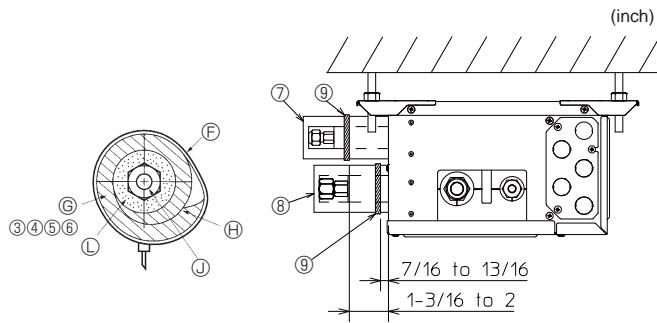
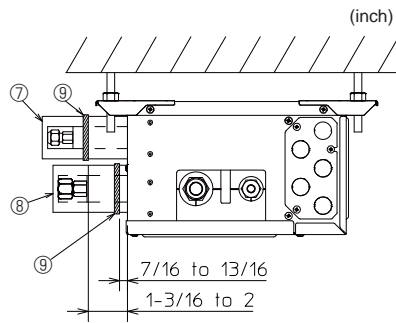

Fig. 7-3
Fig. 7-4
- (1) Remove the flared nuts and caps from the branch box.
- (2) Flare the ends of the liquid and gas piping, and apply refrigeration oil (procure locally) to the flared seat. Do not apply oil to the threaded portion.
- (3) Connect the refrigerant piping immediately. Always tighten the flared nuts to the torque specified in the table 2 using a torque wrench and double spanner.
- (4) Press the pipe covers ③ and ⑤ on the liquid piping against the unit and wrap to hold in place. (Fig. 7-3)
- (5) Press the pipe covers ④ and ⑥ on the gas piping against the unit and wrap to hold in place. (Fig. 7-3)
- (6) Apply the supplied bands ⑨ at a position 7/16-13/16 inch (10 - 20 mm) from each end of the pipe covers (③④⑤⑥).
- (7) If the indoor unit is not connected, fit the supplied pipe covers (with caps, ⑦ and ⑧) to the branch box refrigerant piping connections against the unit to prevent condensation dripping from the pipes. (Fig. 7-4)
- (8) Clamp the pipe covers (⑦⑧) in place with the supplied bands ⑨.
- Ⓕ Band ⑨
- Ⓖ Pipe covers ③④⑤⑥
► Use the following procedures for indoor connection part which indoor unit is not connected. (Fig. 7-4)
- (1) In order to prevent refrigerant leaks, make sure that the flare nuts are tightened according to the specified torques* in Table 3.
- (2) In order to prevent condensation, install the pipe covers ⑦ ⑧ against the unit and fasten them with the supplied bands ⑨.